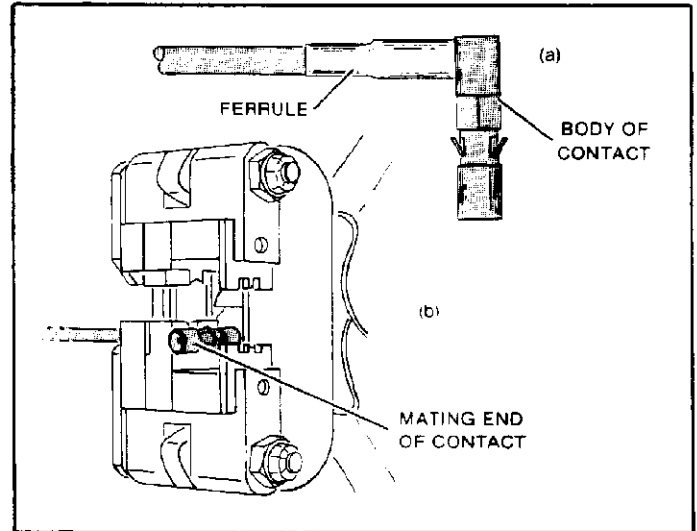

Figure 8
- (a) Slide ferrule over braid until ferrule bottoms against body of contact. Portholes are covered by ferrule. See Figure 8 (a).
- (b) Position mating end of right-angle contact as shown in Figure 8 (b). Body of contact butts against end of ferrule (contact) crimp nest.